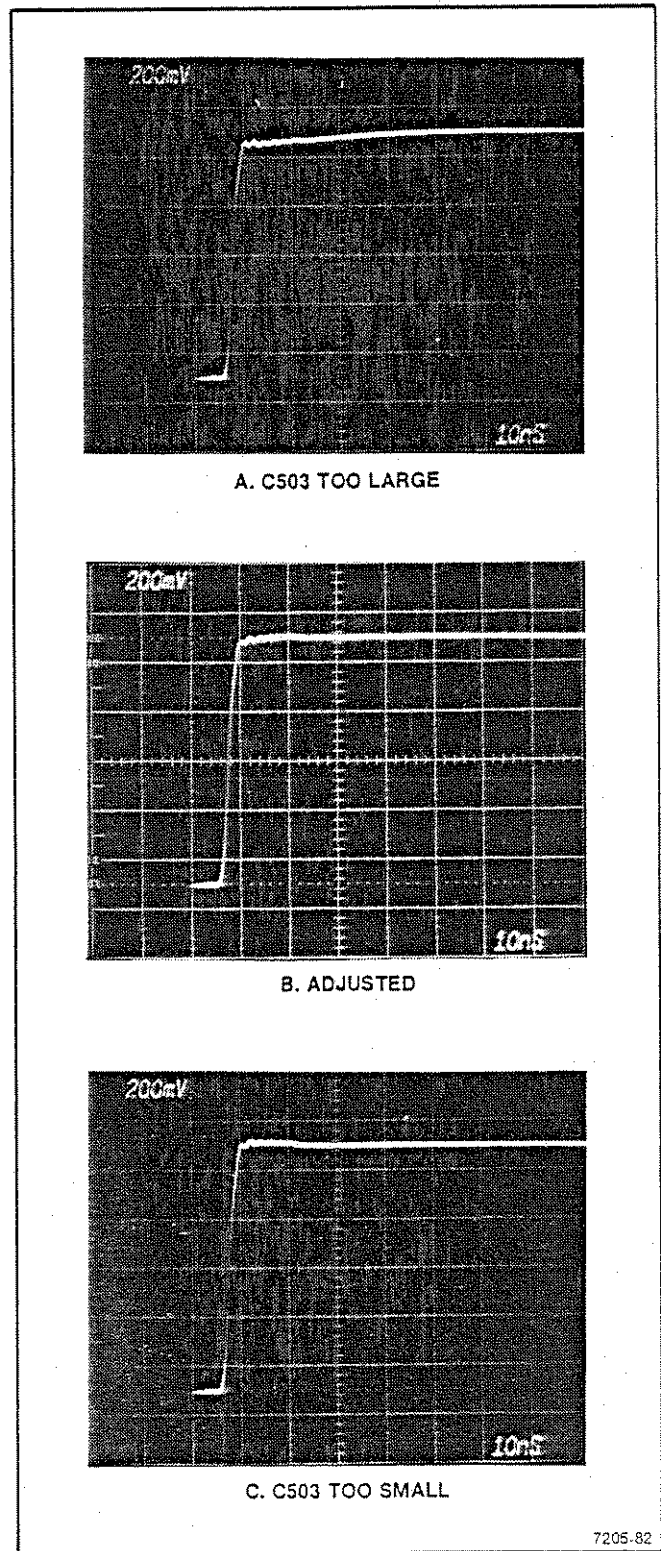

Fig. 4-3 Waveforms for adjusting CH2 Frequency compensation
- h. **ADJUST** C503 on A12 for the best transient response on the Oscilloscope display. Figure 4-3 shows the effect of increasing or decreasing capacitor C503.